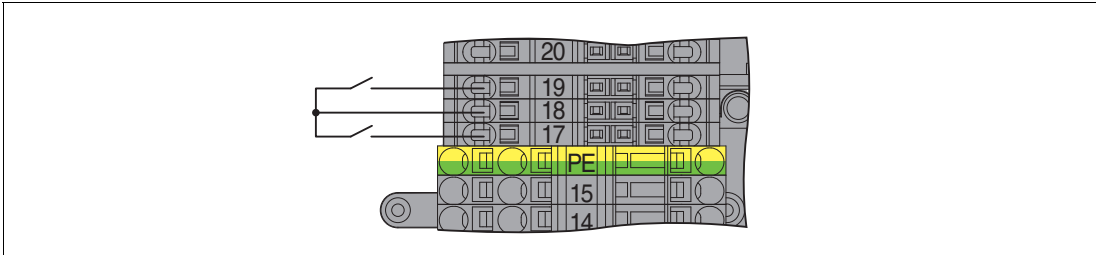

Figure 4.6 Output shutdown connection
1. To use the output shutdown of the I/O modules on slots 1 to 10, replace plug-in jumper 18/19 with an external, volt-free contact, see Figure 4.6.
2. To use the output shutdown of the I/O modules on slots 11 to 20 (not for FB9261BP10220.\*), replace plug-in jumper 17/18 with an external, see Figure 4.6.